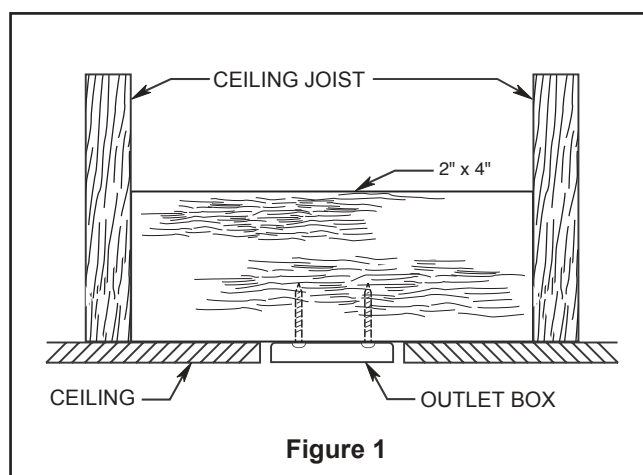
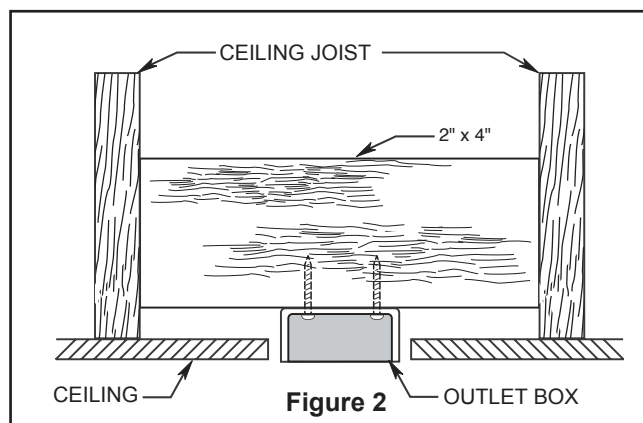
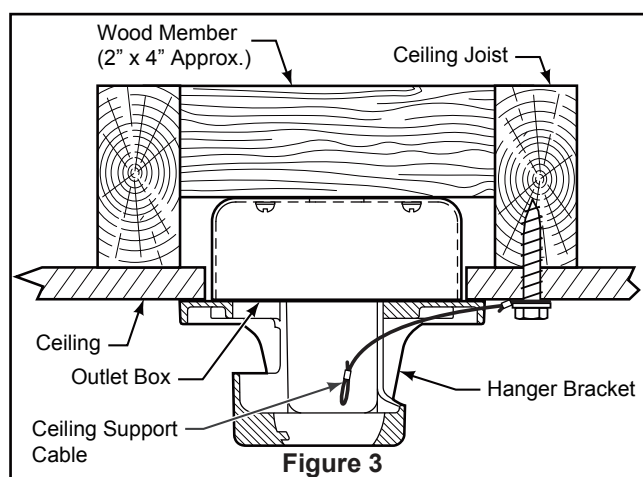

Figure 1
Figure 2
Figure 3
Your new ceiling fan will require a grounded electrical supply line of 120 volts AC, 60 HZ, 15 Amp Circuit. Electrical code requires use of a fan-rated outlet box to support the extra weight and motion associated with a ceiling fan. A fan-rated box will be labeled as such and typically supports up to a 70lbs ceiling fan. Fan-Rated Outlet Boxes vary in ratings and design. Ensure the ratings of your ceiling fan outlet box meet the requirements for the ceiling fan being installed. Figure 1, Figure 2 and Figure 3 depicts different structural configurations that may be used for mounting the outlet box.
Low profile box (Figure 1)
Deep box (Figure 2)
Deep box with brace (Figure 3)
3. Loosen the two set screws and locking nuts in the downrod support of the motor assembly. Route the black, white, red, blue wires and safety cable through the downrod. (Figure 3)
1. Securely attach the hanger bracket to the outlet box using the outlet box screws and washers supplied with the outlet box. (Figure 3)
2. Drill a 1/4" pilot hole into the building structure to prevent splitting or cracking with installation of the lag bolt. Using the 3/8" x 2" lag bolt and flat washer, attach safety cable to ceiling joist or wood structural member. The lag bolt will pass through the flat washer, safety cable loop, and into the building structure. (Figure 3)
NOTE: Ceiling support cable cannot be secured to outlet box only, it must be directly secured to ceiling joist or structural member using the 3/8" x 2" lag bolt and flat washer. (Figure 3)
2. Slide the receiver into the hanger bracket before wiring as shown in figure 3.
- 3. To make fan operational, install 23A/12V battery (included) in hand-held remote transmitter, with fan power off. Then follow the remote code setting process. (If not used for long periods of time, remove battery to prevent damage to transmitter). Store the remote away from excessive heat or humidity. (Figure 3)